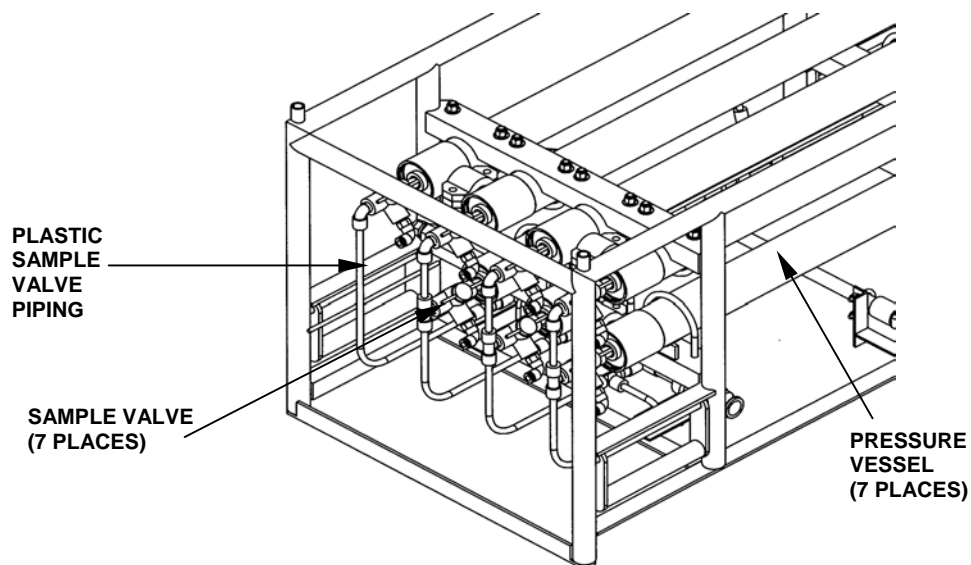
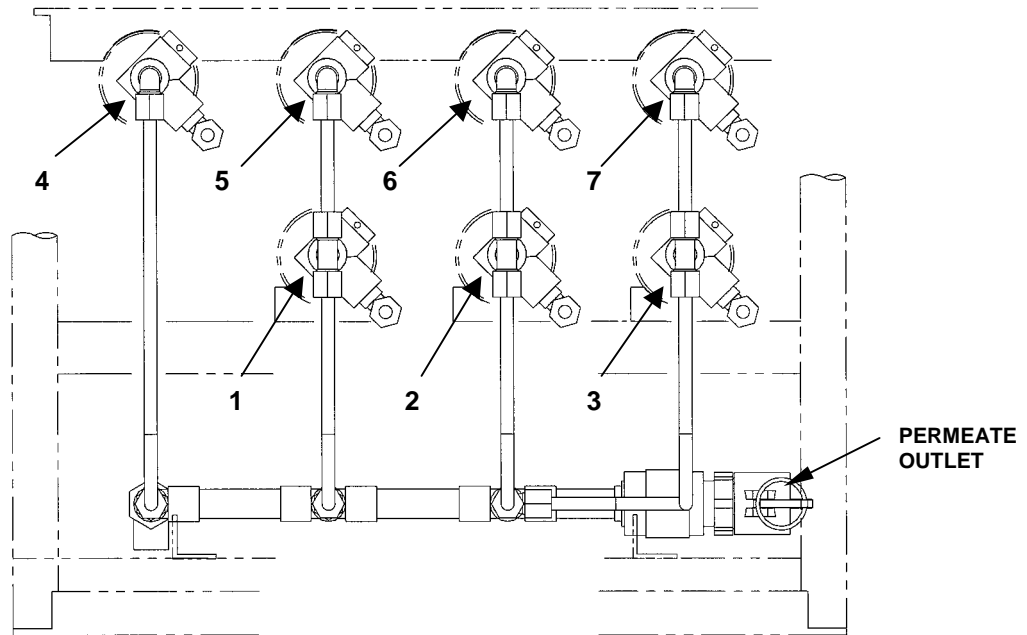

Figure 1. Removing Sample Valve Tubing (Left Side).
Figure 2. RO Element Piping Layout.
1. Remove plastic piping and sample valves from the pressure vessel (RO1 through RO7) and from the RO element module. See Figure 1 and Figure 2.